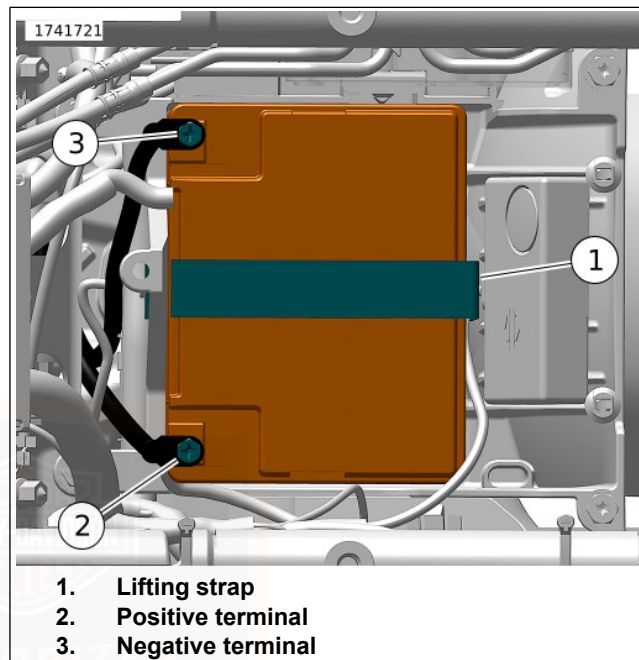

Figure 117. Battery Compartment
10. See Figure 117. Disconnect both battery terminal screws (2, 3), negative battery terminal first.
11. Pull up battery lifting strap (1) to raise battery. When battery is extracted far enough to get a good grip, grasp battery and remove completely.
3. See Figure 117. Place the battery into the battery tray, terminal side forward.